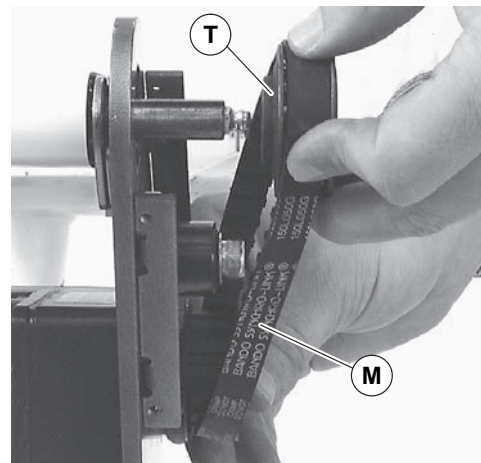

Figure 17
3. Remove timing belt (Figure 17, item M).
If timing belt does not slide over pulley flange, loosen driven pulley set screws (Figure 17, item T) and remove pulley with belt. For re-installation, see steps 6 through 9 on page 9.
5. Remove timing belt (Figure 17, item M).